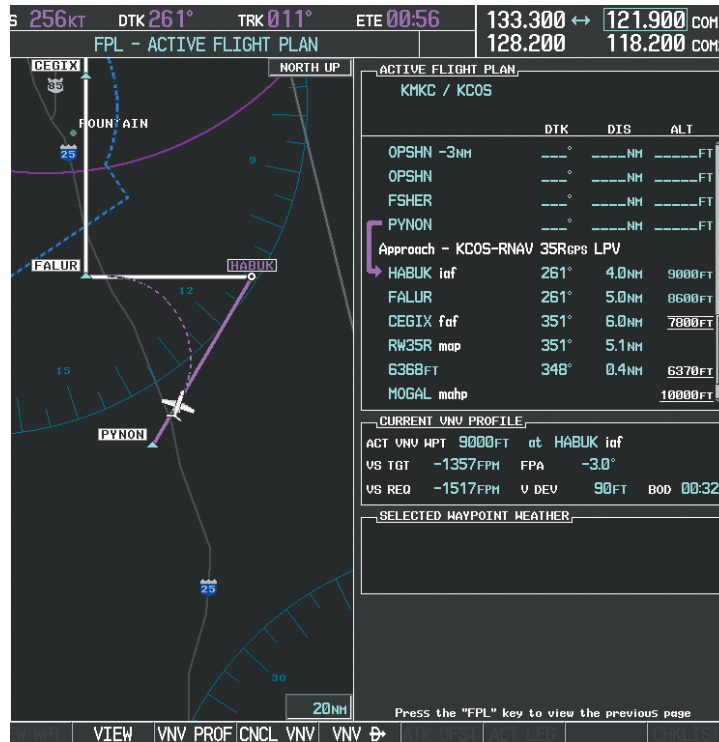

Figure 5-139 Approach is Now Active
21) Upon passing PYNON the approach procedure automatically becomes active. The approach may be activated at any point to proceed directly to the IAF. In this example, the aircraft has progressed through the final waypoint of the arrival and the flight plan has automatically sequenced to the IAF as the active leg, activating the approach procedure (see Figure 5-139).